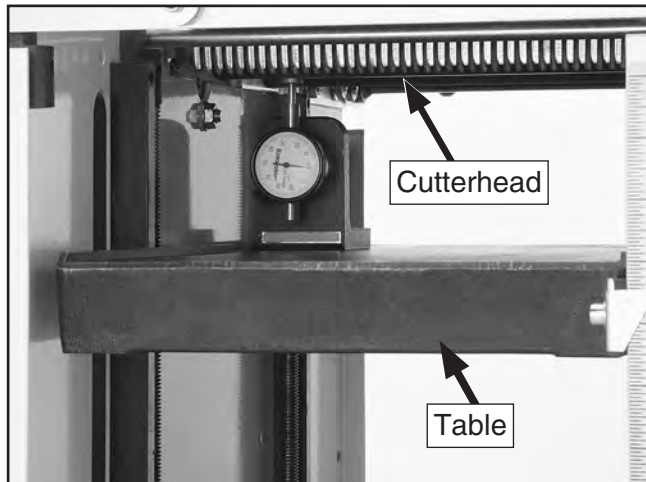
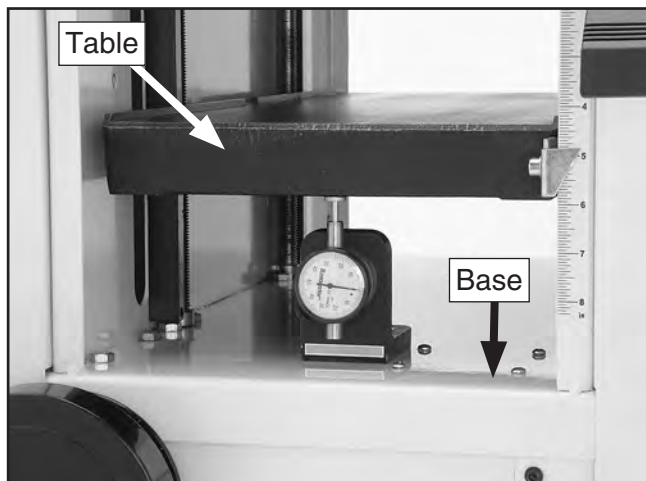

Figure 82. Measuring side-to-side parallelism.
Figure 83. Measuring front-to-back parallelism.
Use your Rotacator (**Page 31**) to further inspect the table parallelism, as shown in **Figure 82** and **Figure 83** on **Page 50**.
- Place the Rotacator on the planer table under one side of the cutterhead, then raise the planer table until the dial rotates one full turn to "0" (see **Figure 82**).
- Place the Rotacator on the base under the center of the infeed side of the planer table, so the plunger contacts the webbing evenly (see **Figure 83**).